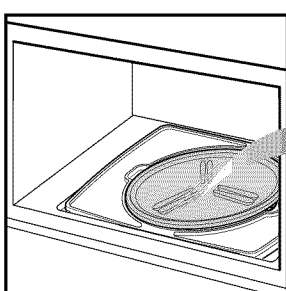

Figure 4-1
3. Place the glass tray on the rotating ring. Fit the rollers of the shaft between the raised, hollowed groove of the glass tray bottom. The rollers on the rotating ring should fit inside the glass tray bottom ridge. (See Figures 4-1 and 4-2)